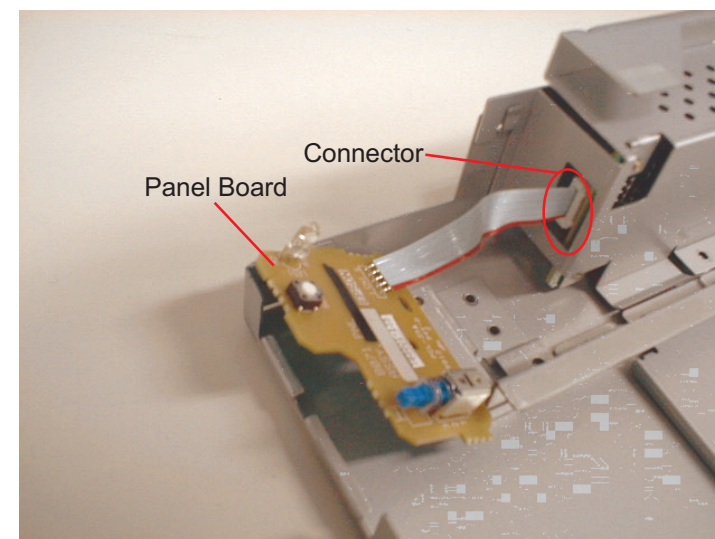

Figure 4-29. Panel Board Removal
5. Remove the cable of the panel board from the power board connector(lock type; Pull and release) (See figure 4-29)